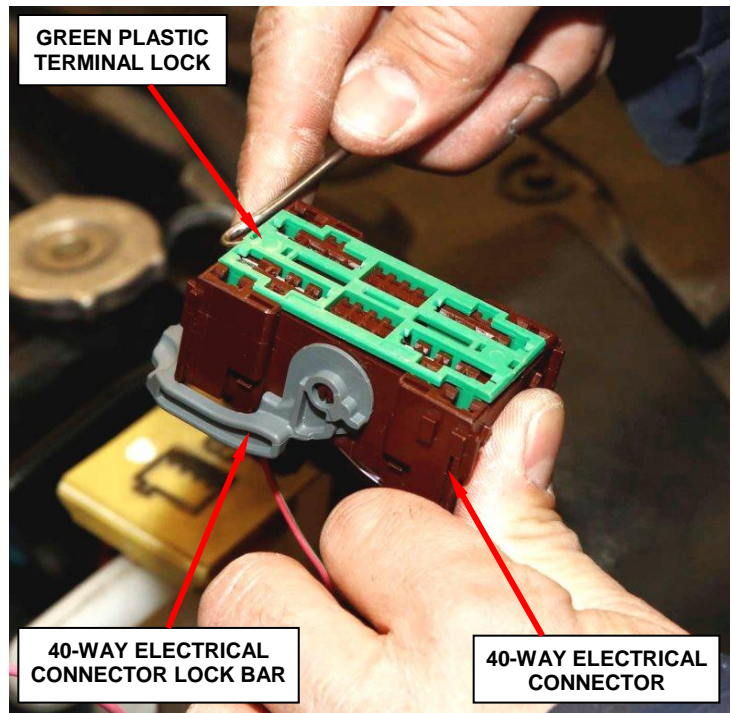

**Figure 15 - Crimp and Solder Blue Wire to Blue Wire (with Orange Trace)**
- c. Using the supplied brass splice band clamps and crimp tool 10042, crimp the blue wire (with orange trace) on the wire harness side to the blue wire on the fuel pump relay wire harness (Figure 15).
- d. Solder the brass splice band clamp with rosin core solder (Figure 15).